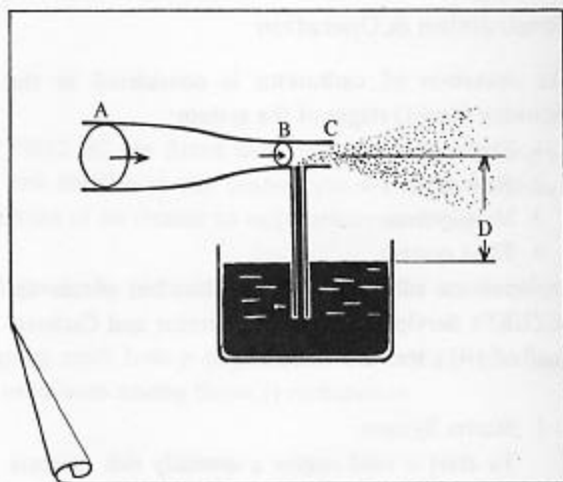

Fig. 8-4 Principle of carburetor
As shown in Fig. 8-4, when air drawn from the part A of a large cross-sectional area reaches the part B having a smaller cross section its velocity is accelerated thus reducing its pressure. (Theoretically, the pressure drop is in inverse proportion to the square of the velocity. A pipe having this effect is called "Venturi".)
A mixing ratio of air and fuel is regulated by valve, jet and other related fittings of each system. If the fuel level should not be constant, the ratio would change markedly. It may be understood that the smaller the distance (D) from fuel level to venturi center, the more is drawn. See Fig. 8-4.